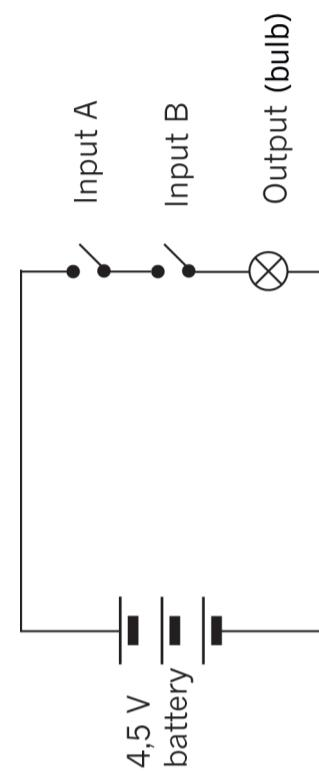

Figure 11: Circuit with two switches in series
- In the table below, “0” means off or open, and “1” means on or closed. Copy and complete the table to show all the different combinations possible in the circuit in Figure 11. To help you, the first two rows of the table have already been completed. Make sure you understand those two rows before you complete the table.